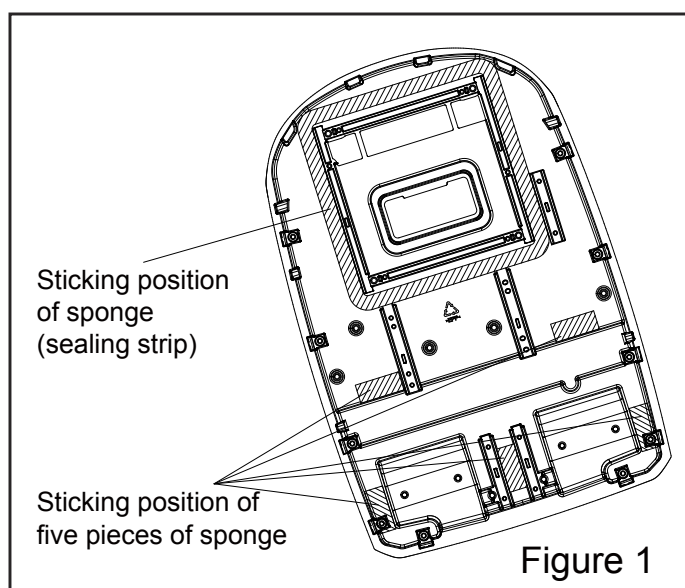

Figure 1
1. Before sticking, clean up the sundries at the sticking position (as shown in Figure 1) of the chassis of the outdoor unit to ensure that the sticking position is clean;
2. Take out one piece of sponge (sealing strip) and five pieces of sponge from the accessories, and tear off the paper on the glue surface and align at the edge of the position as shown in Figure 1 to stick the sponge.